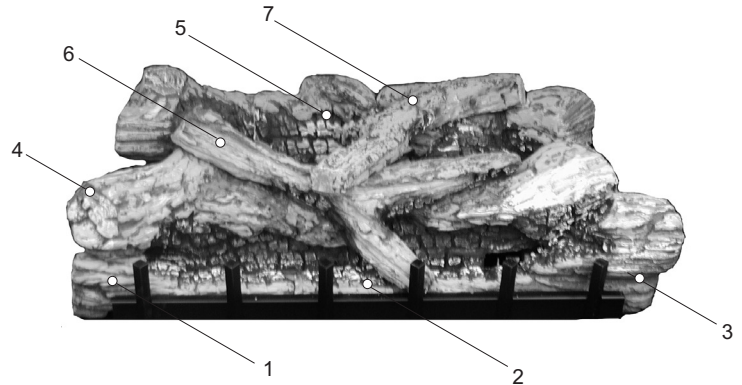
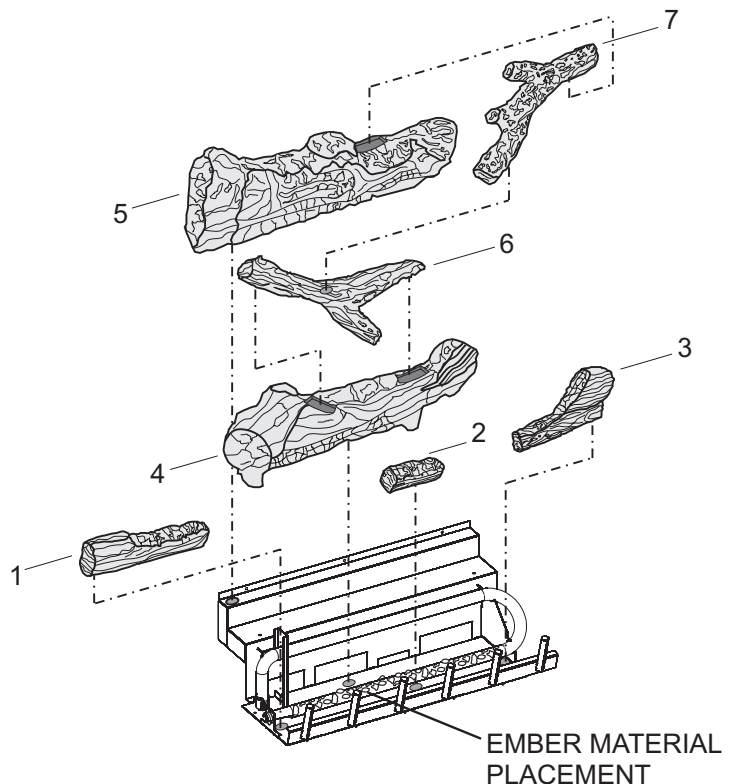

Figure 57
Figure 58
The positioning of logs is critical to safe and clean operation of this fireplace. Sooting and other problems may result if the logs are not properly and firmly positioned in the fireplace. Please refer to **Figure 57** and **Figure 58** and corresponding WARNING when completing following log placement steps.
11. After all logs are properly positioned, place small "dime" size pieces of Rockwool lightly across the front burner tube ports. Place the ember material (Rockwool pieces) side by side. Do not stack more than one layer of embers across the burner ports. See Figure 58.
Attention: Do not use Figure 57 or Figure 58 to order logs. Refer to parts list on pages 50 - 51 and parts view on page 52 to order logs and/or ember material for your appropriate fireplace model.